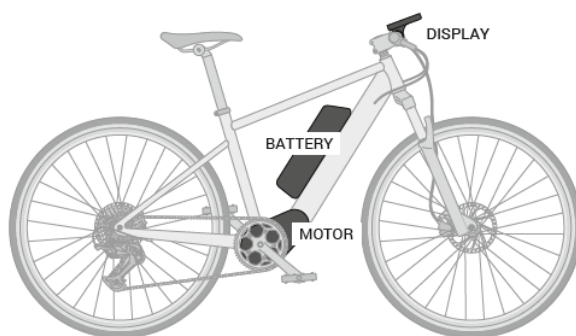

fig. 1
- **Display(s):** Provide the rider with relevant information about the ride, such as speed, distance, power output, and battery charge (fig. 1).
- **Class 1:** Bicycle equipped with a motor that provides assistance only when the rider is pedaling and that ceases to provide assistance when the electric bicycle reaches 20 mph (**fig. 1**).
NOTE: This Manual is only for e-bikes that are manufactured as complete e-bikes and designed to apply power through the rear wheel, with a “mid-drive” motor (**fig. 1**). This Manual does not cover other types of e-bikes, including motors contained in the rear hub, front-wheel drive, conversion kits, or “add-on” electric motors of any kind.